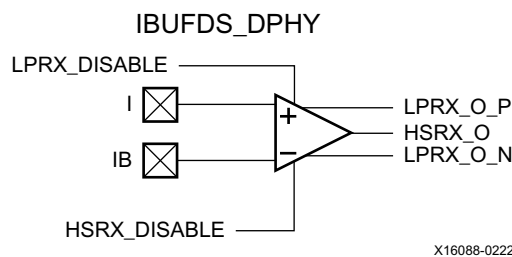

Figure 1-29: Differential Input Buffer Primitive (IBUFDS_DPHY)
The differential input buffer primitive (IBUFDS_DPHY) is only supported in the HP I/O banks in Virtex UltraScale+ devices (Figure 1-29), Kintex UltraScale+ devices, and Zynq UltraScale+ MPSoCs. This UltraScale architecture specific primitive is specifically meant for MIPI D-PHY receiver implementation. The HSRX_DISABLE port is used to enable or disable the MIPI D-PHY high-speed (HS) receiver. The LPRX_DISABLE port is used to enable or disable the low-power (LP) receiver. HSRX_O and LPRX_O(P/N) are inputs to the interconnect logic from the HS and LP receivers, respectively. The primitive only supports MIPI_DPHY_DCI as the value for the IOSTANDARD attribute.